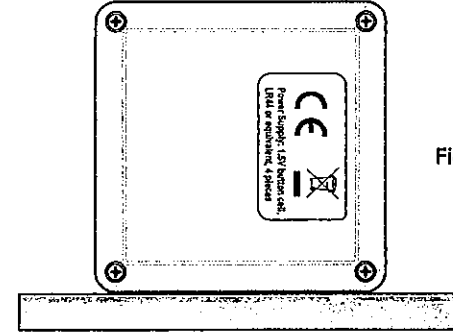

Figure 14
- Wait until the number "7" of the displayed "CA d 7" flashes, then rotate the instrument by 180° along the vertical axis so that the front panel of the instrument faces away from you; the result replacement of instrument is shown in Figure 14. Press the "REL" key once. The display shows "CA d 8". Wait until number "8" of the displayed "CA d 8" flashes, then press the "REL" key once more. The instrument off and then turns on immediately and automatically. Now the factory preset accuracy has been reset and the calibration finishes.